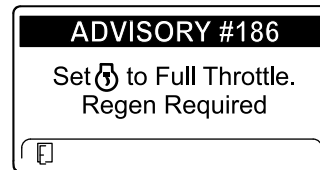

Figure 47
**Note:** If the InfoCenter displays ADVISORY #186 (Figure 47), set the engine to full throttle (high idle) to allow the reset regeneration to continue.